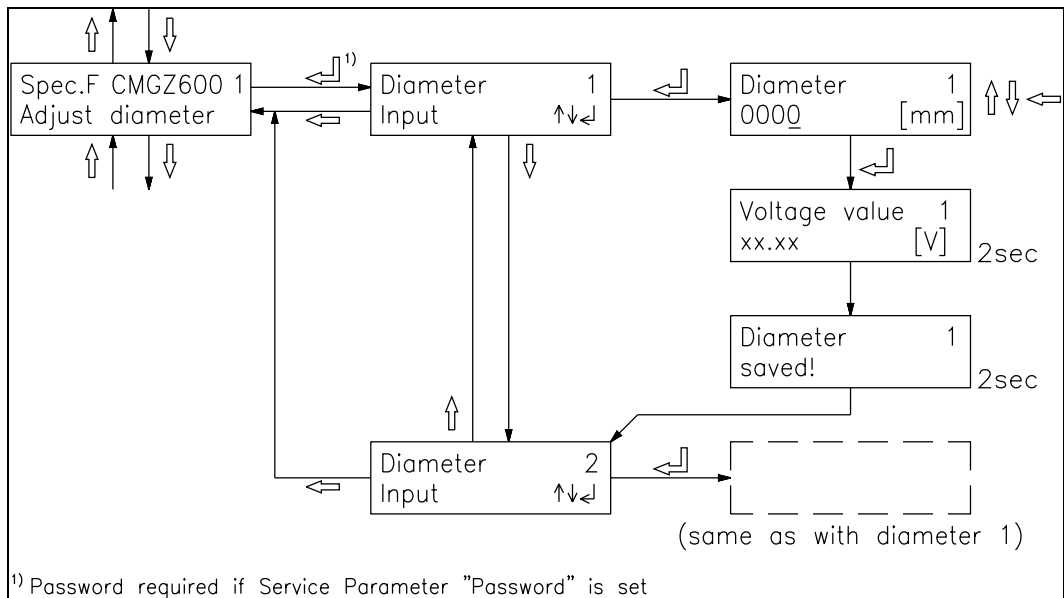

fig. 20: Program flow for special function „Adjust diameter“ C611007e
- In the main operating menu, press the **MODE** key. Search and select the module *Spec.F CMGZ600 1* and the special function *Adjust diameter* with the \uparrow \downarrow \leftarrow keys (fig. 15). Input the actual (small) reel diameter as *Diameter 1* (fig. 20). After confirmation with \leftarrow key the diameter is saved together with the corresponding voltage signal.
- Enter the actual (large) reel diameter as *Diameter 2* as written above (fig. 20). After confirmation with ↵ key the diameter is saved together with the referring voltage signal.
If the end of the reel needs winding with less tension than the centre, the taper function can be parametrized. Therefore the corresponding values have to be entered in the parameters *Reference 25%Dia*, *Reference 50%Dia*, *Reference 75%Dia* and *Reference D max.* (ref. fig. 20). The taper function only operates, if the parameter *Reference source* is set to *Taper function*. The controller has to know the actual reel diameter.
- When in the main operating menu, press MODE key. Search and select the module *Spec.F CMGZ600 1* and the special function *Adjust diameter* with the \uparrow \downarrow \leftarrow keys (fig. 15). Input the actual (small) reel diameter as *Diameter 1* (fig. 20). After confirmation with \leftarrow key the diameter is saved together with the referring voltage signal.